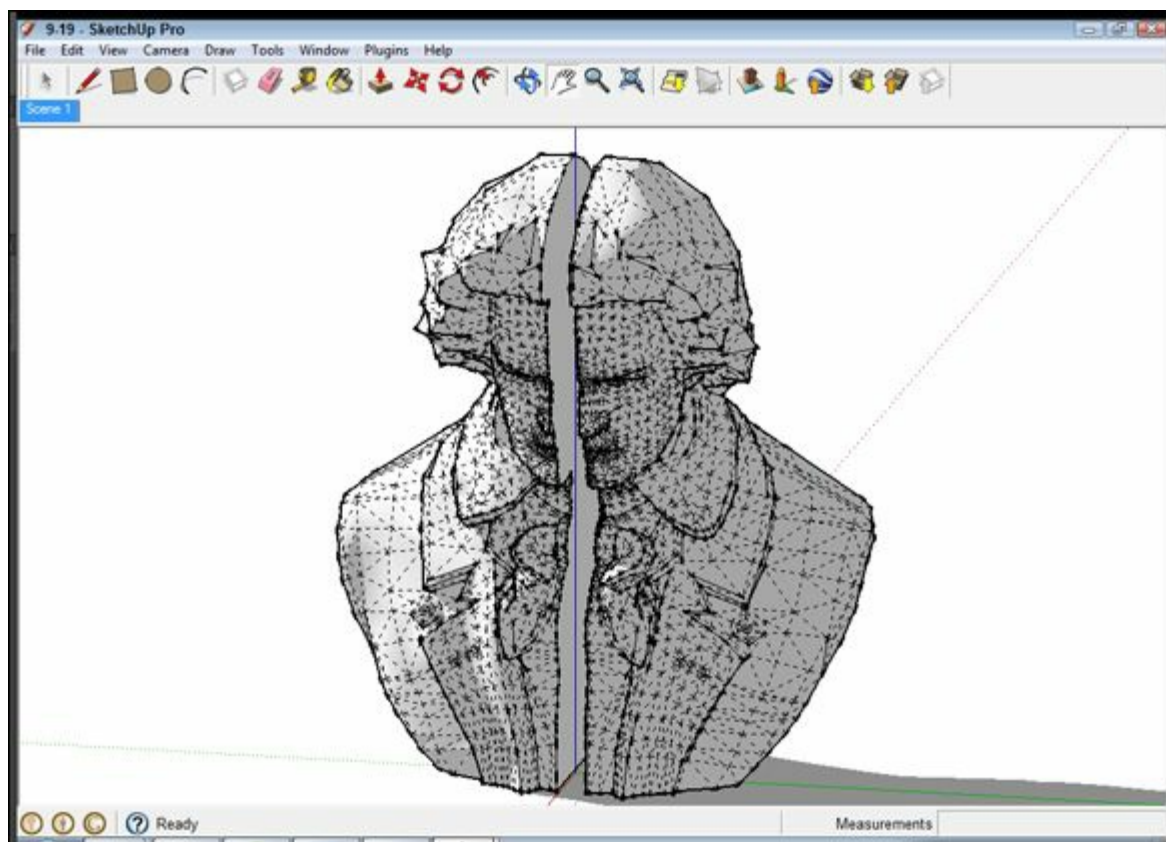

FIGURE 9-18: It still fits!
9. **Position the parts back together to make sure everything lines up as expected, as shown in Figure 9-18.**